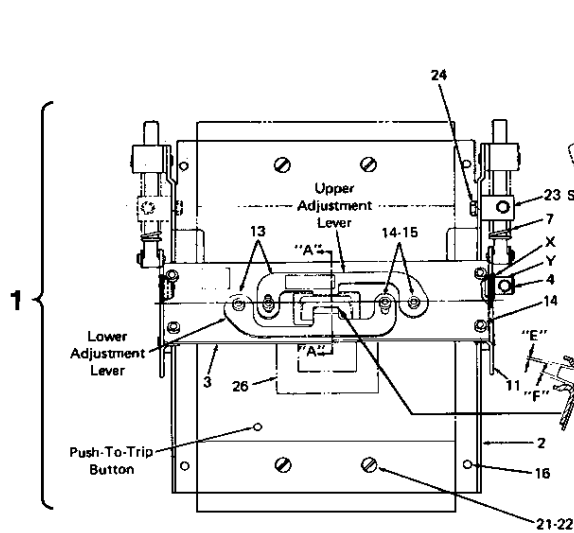

Figure 1
3. If the circuit interrupter does not reset, place handle in ON position, decrease gap "E" by loosening screw assemblies in upper adjustment lever, reducing gap "E" (figure 1) and tightening screw assemblies to 70 inch pounds. Repeat as necessary until circuit interrupter can be turned ON and OFF, and reset with the operating handle.